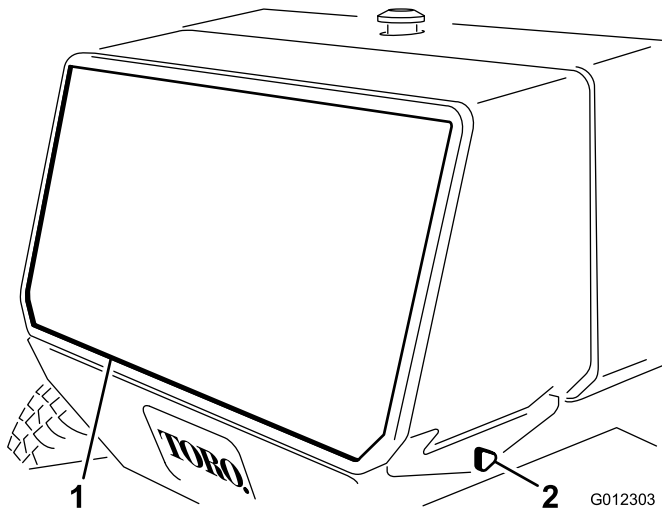

Figure 38
4. Remove the knobs securing the rear screen to the frame and remove the screen (Figure 38).